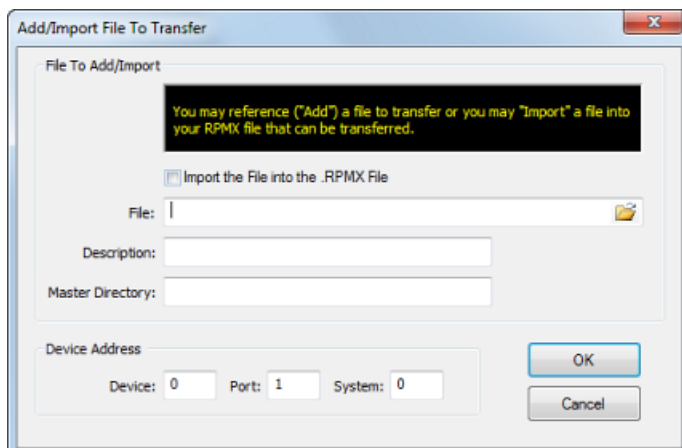

FIG. 53 Add/Import File To Transfer dialog
1. Select **Add/Import Local File To Transfer** from the Options Menu or the File Transfer List Bar Context Menu to open the *Add/Import File To Transfer* dialog (FIG. 53). Use the options in this dialog to either Add or Import a file to the transfer list.